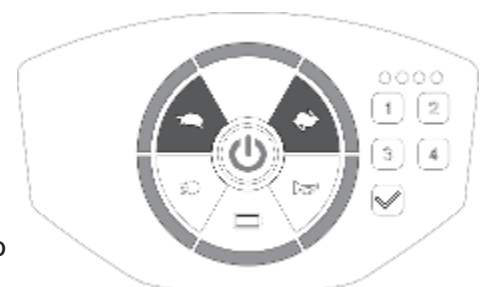

Figure 9
- Press the power button to get the scooter on power standby (red light on), then press and hold both acceleration [🏍️] / deceleration [🏍️] buttons for 2 seconds. The panel light will be all on when scooter is ready for backlight setting. (Figure 9)